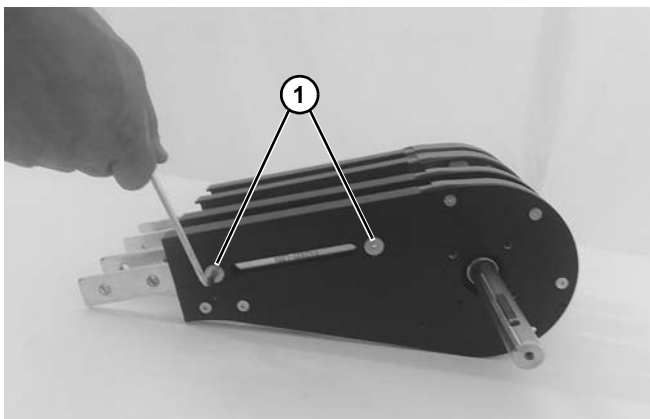

Figure 119
5. Remove two screws (**Figure 119, item 1**) on side of drive spindle.